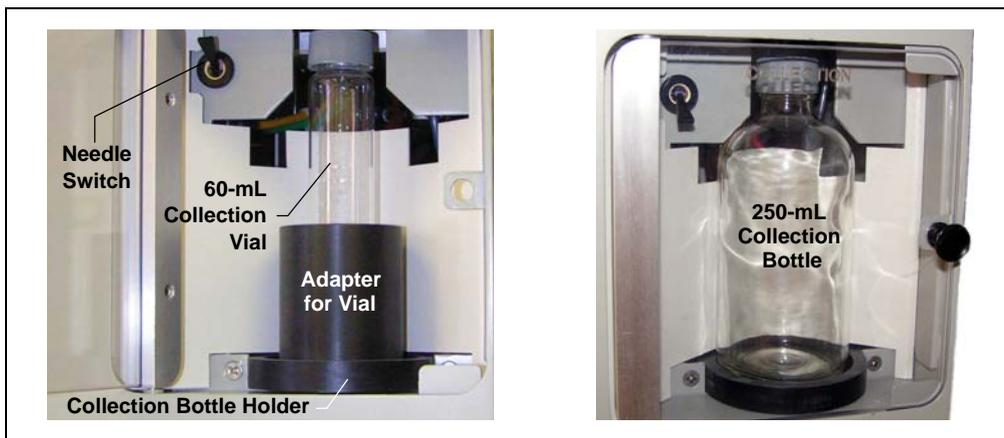

Figure 3-10. Installing the Collection Vessel
1. Open the collection vessel compartment door and toggle the needle switch to the **UP** position (see Figure 3-10).
2. If you are using a 60-mL collection vial, place the vial into the adapter (P/N 066392) and then place the adapter on the collection bottle holder (see Figure 3-10).